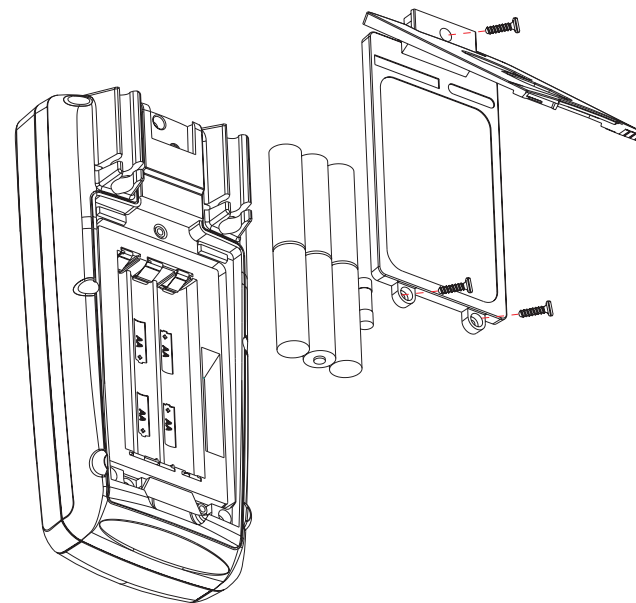

Figure 8
2. Installation or replacement of battery/fuse (See Figure 8)
6 1.5V(AA) batteries, as shown in Figure 8, provide power for the product. Please install or replace batteries as follows:
- ① Turn the rotary switch to OFF (shut down) and take off the test wire from the terminal.
- ② Remove three screws from the battery cover with the standard cross screwdriver, take off the cover and take out the batteries, then install the new batteries as per the indication of polarity.
- ③ It is required to install batteries of the same model. Do not install the improper batteries.
- ④ Take out the damaged fuse as per the methods specified in Figure 8, and replace them with the fuse of the same specification (specification: 0.315A/250V).
- ⑤ After installing new battery, put the battery cover in place and screw on three screws.